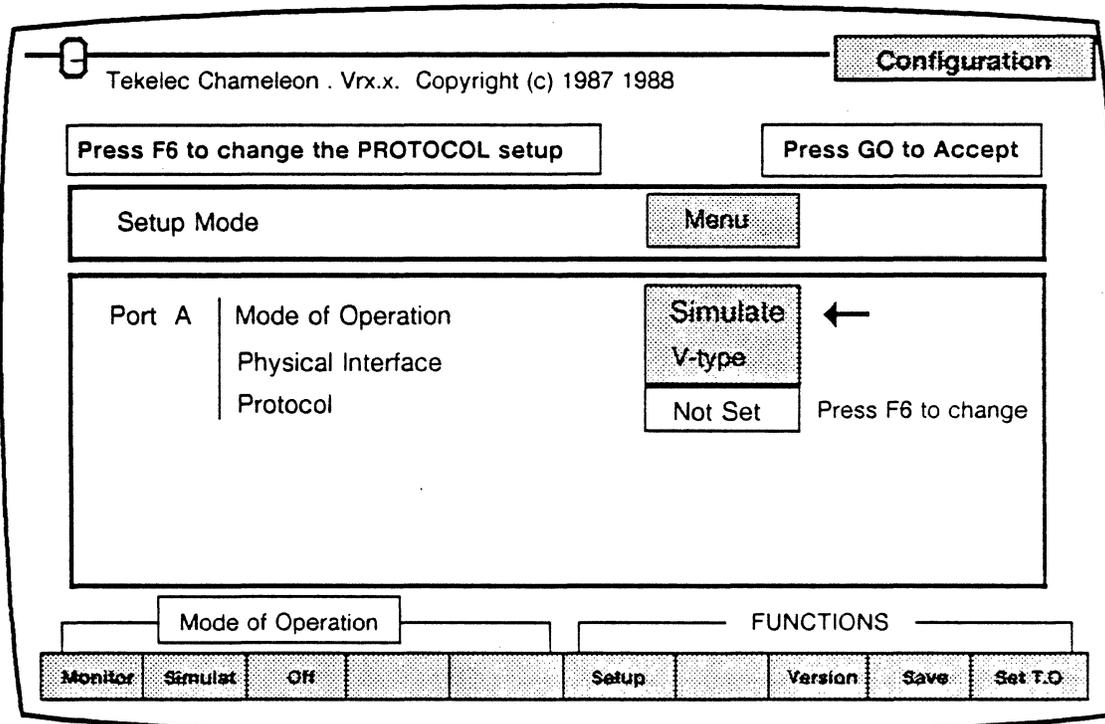

Figure 2.1-1: Menu Setup Mode (Single Port)
2. After the system software is booted, a Configuration menu appears (Figure 2.1-1).